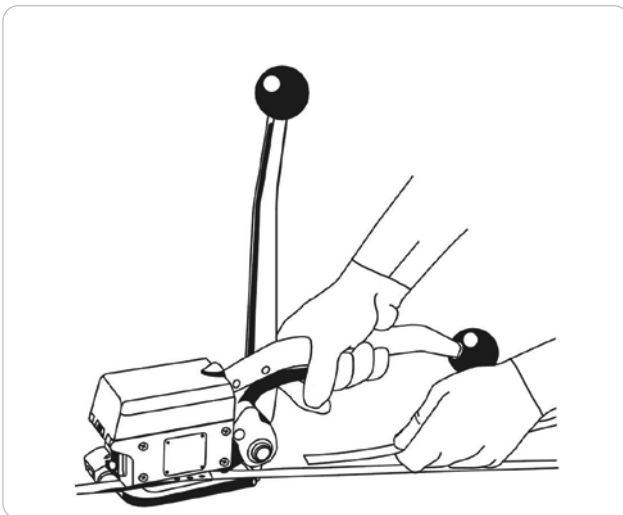

Figure 5
7. Hold the cut end with your left hand and lift the rocker with your right. Pull the strap end out of the device via the left side. Guide the device to the right away from the strapping (Figure 5).